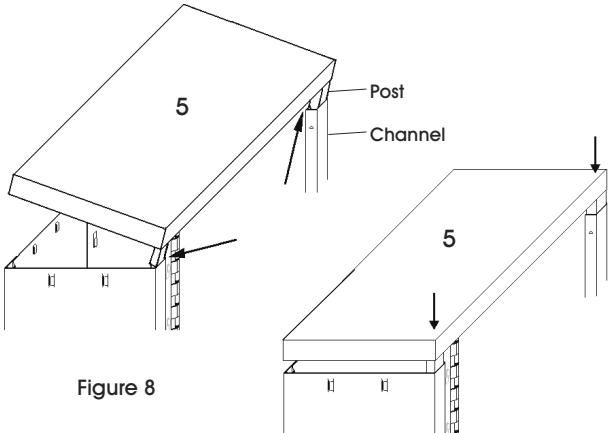

Figure 8
1. Begin inserting the posts on the top (5) into the channels on the right and left side panels. (See Figure 8)